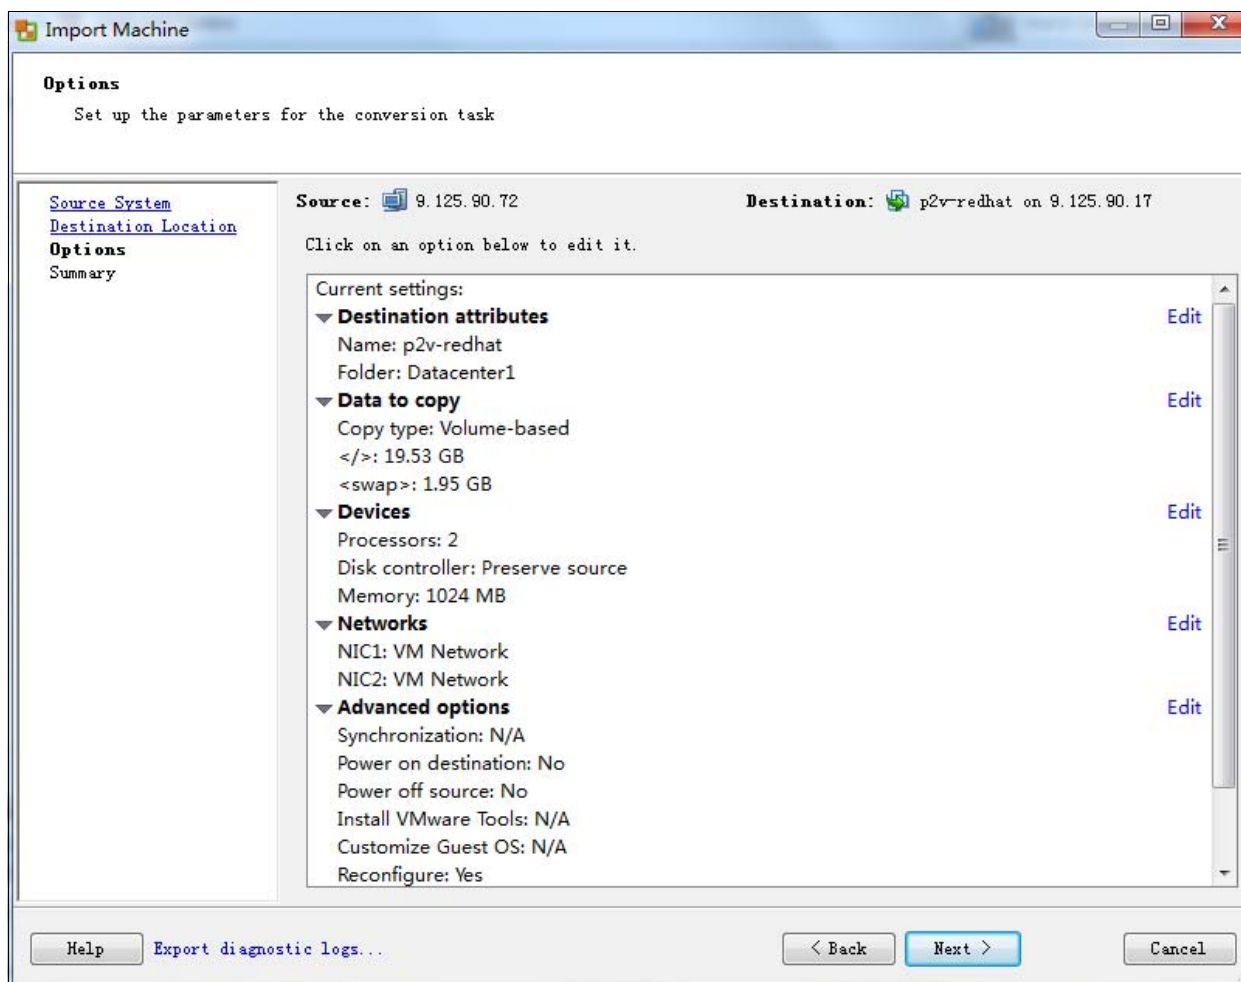

Figure 3-39 Import Machine wizard: Options
7. Edit the options for the virtual machine, such as CPU, memory, or the disk settings in the Import Machine window, as shown in Figure 3-39. Use the same settings on the physical OS of the source server if the target server has the capacity.